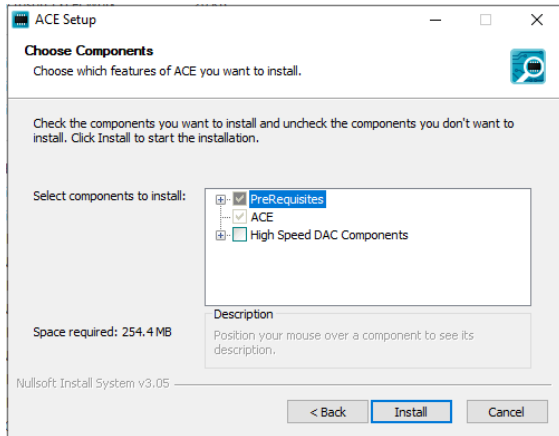

Figure 12. Choose Components
7. The ACE software components to install are preselected. Click **Install** (see Figure 12).